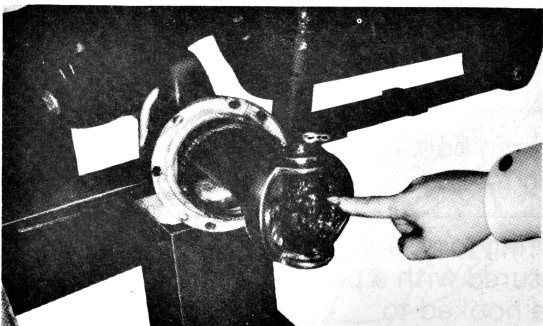

Fig. 5-11.
Make sure to lubricate the front axle shaft only with sulphuric molybdenum grease. This is a special-purpose lubricant and use of grease of other kinds for lubricating the front axle shafts will result in considerable reduction in the service life of the vital parts. Fill about thirty (30) percent of the space within the knuckle case with sulphuric molybdenum grease as shown in the Fig. 5-11.